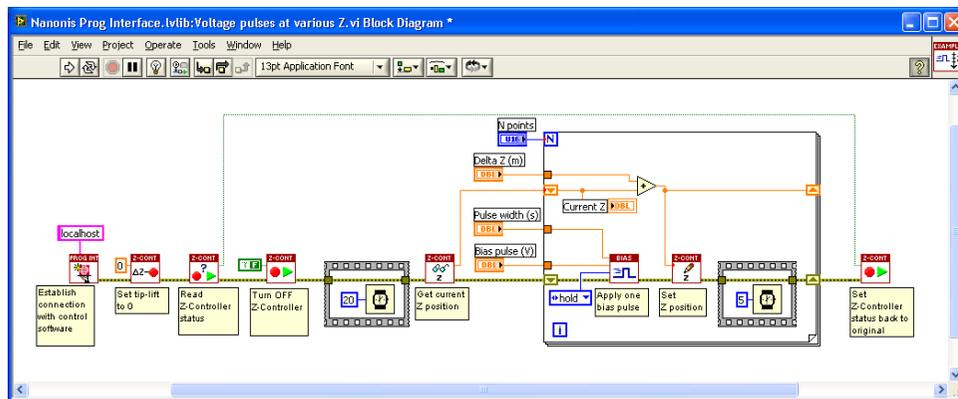

Figure 1: Example script to apply voltage pulses at 10 different heights above the sample.
- **Apply series of bias pulses at different tip-heights:** see example in Figure 1, a series of bias pulse is applied at different tip heights.